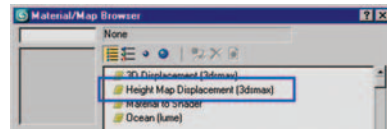

Figure 11.51 Height Map Displacement highlighted.
- Select Height Map Displacement from the options list. Figure 11.51 shows Height Map Displacement highlighted.